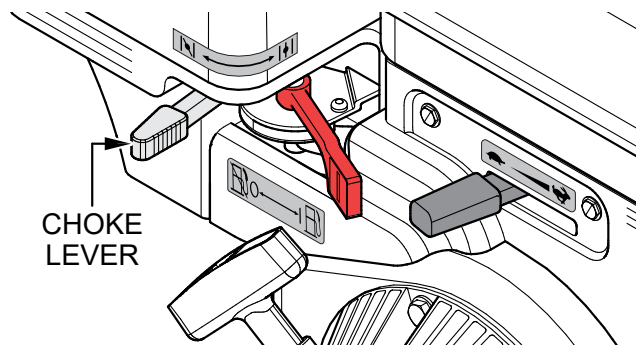

Figure 10. Choke Lever (Closed)
3. If starting a cold engine, place the **engine choke lever** in the **CLOSED** position (Figure 10).